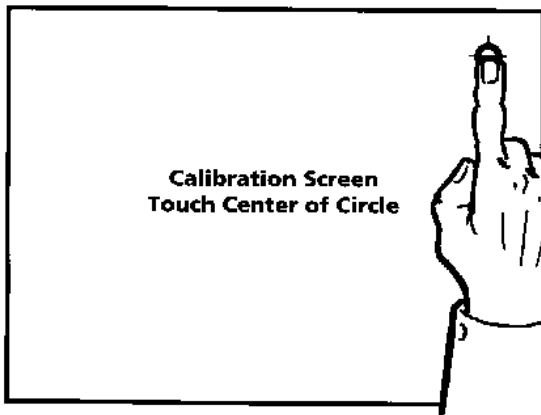
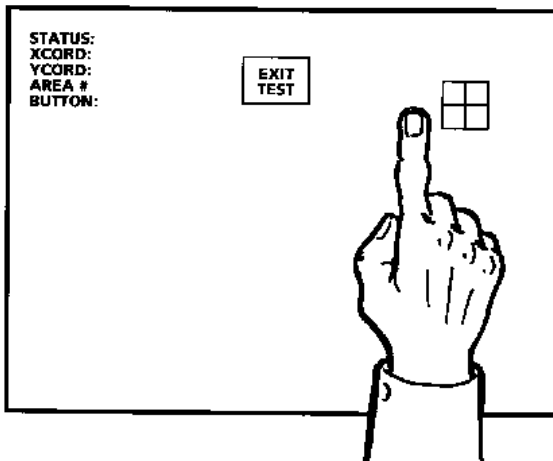

Figure 2a
Figure 2c
- Go back to calibrate mode, but this time touch exactly on the center of the calibration dots, to more accurately calibrate the screen (see Figures 2a and 2b). You are now back in TEST SCREEN mode. **Touch the approximate location where the first dot appeared.** If the crosshair is not centered on your finger, note the direction and approximate distance which it is off center. Repeat this procedure **at the approximate location of the second calibration dot** (see Figures 2c and 2d). (If the crosshair is centered on your finger, the screen is calibrated accurately.)